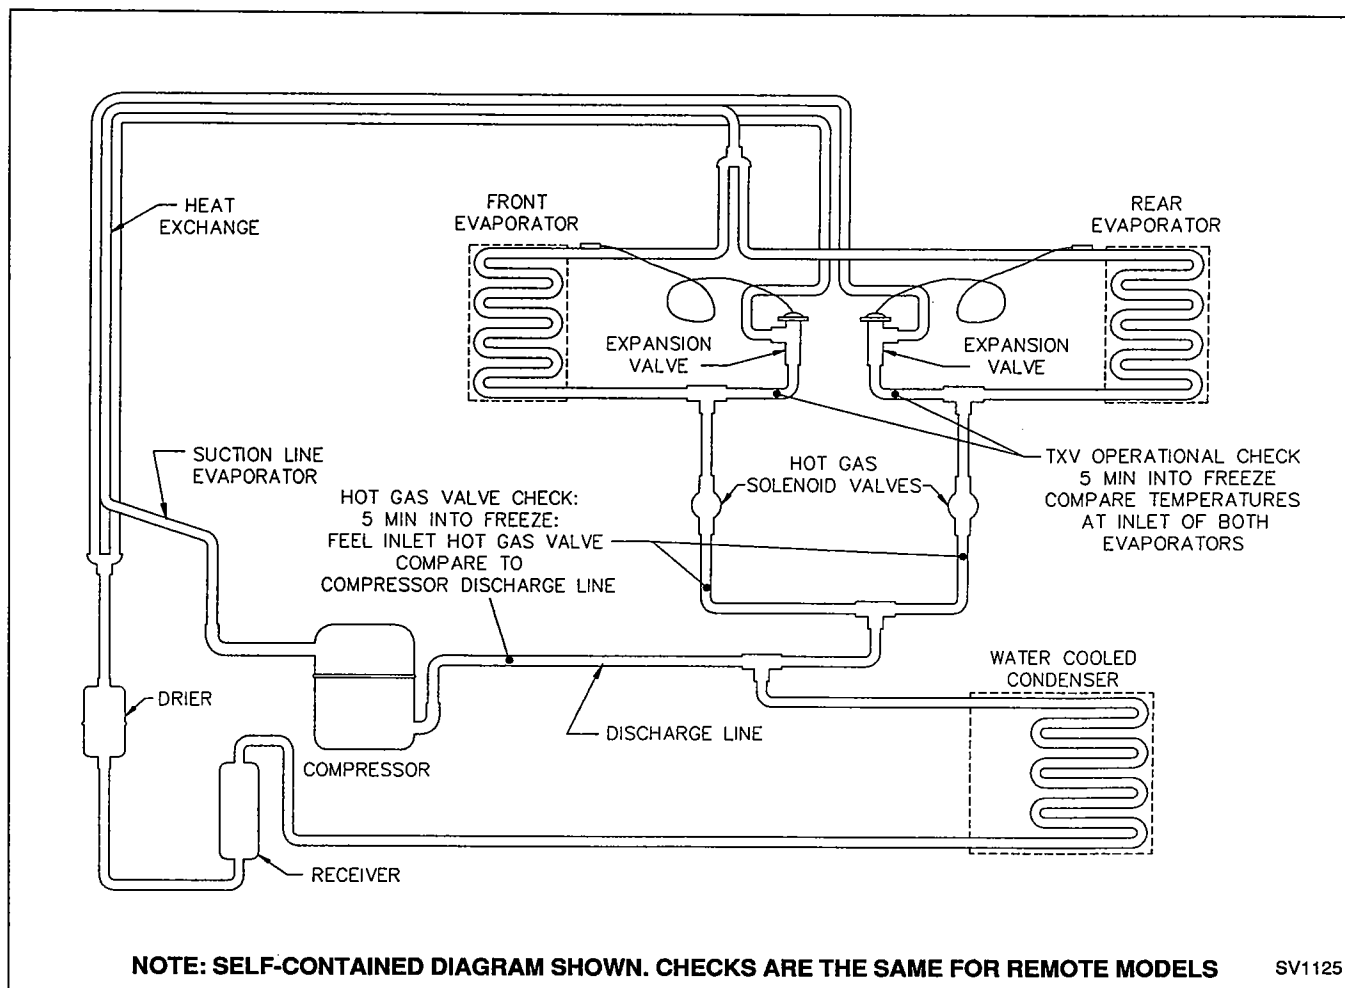

FIGURE 62. HOT GAS VALVE INLET FEEL CHECK/TXV OPERATIONAL CHECK
- b. Check procedures (Figure 62, page 66).
4. TXV operational check (Figure 62, page 66) is used to determine how the TXV's are functioning. As temperature readings must be accurate, a thermocouple type of temperature meter is recommended.